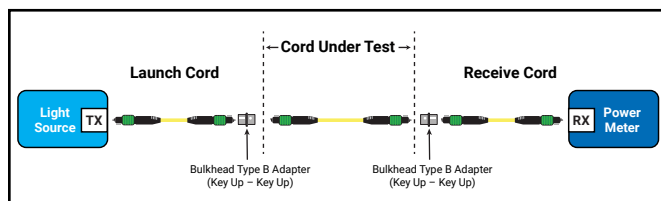

Figure 10g: Unpinned-pinned test cord verification configuration
7. Connect the receive cord to the power meter, and connect the Cord Under Test between the launch cord and receive cord as shown in Figure 10g.